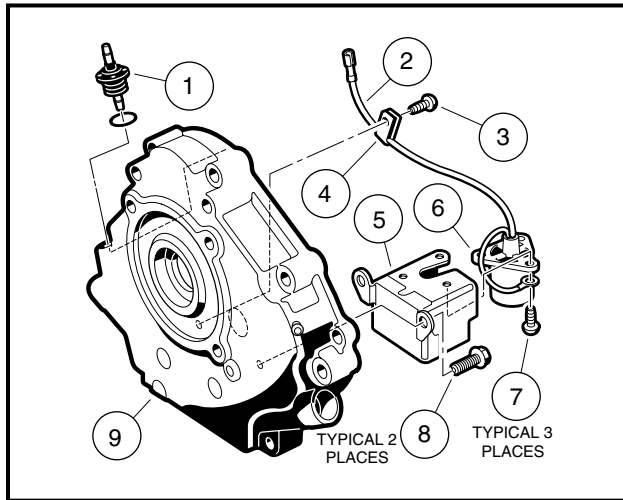

Figure 3-38 Oil Level Sensor
1. Disconnect the oil level sensor wire (2) from the cord connector (1) (**Figure 3-38, Page 3-21**).
2. Remove screw (3) from the wire clamp (4).
3. Remove the two mounting screws (8) from inside of the crankcase cover and remove the oil level sensor and bracket.
4. Remove the three screws (7) holding the sensor (6).
1. Install a new sensor (6) into bracket (5) and secure with three screws (7) and tighten to 17 in-lb (1.9 N·m) (**Figure 3-38, Page 3-21**).
2. Position the sensor and bracket on inside of crankcase and install two mounting screws (8).
3. Connect sensor wire (2) to cord connector (1).
4. Install screw (3) through wire clamp and into crankcase cover. Tighten to 30 in-lb (3.4 N·m).